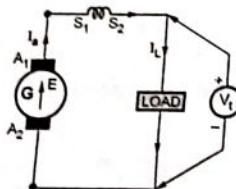

Fig. 7.11.1 Series generator
- It is shown in the Fig. 7.11.1.
- The resistance of series field winding is very small and hence naturally it has less number of turns of thick cross-section wire as shown in the Fig. 7.11.1